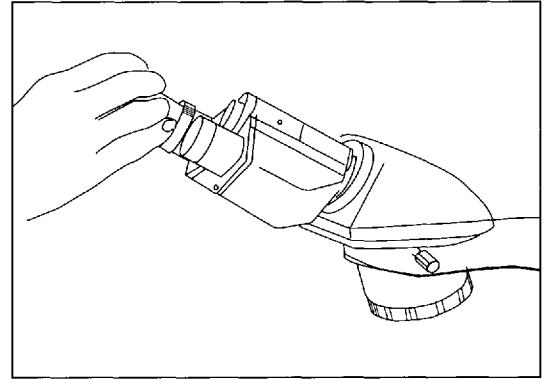

Figure 3
- Install the two eyepieces (MA407) by sliding them into the head. **The eyepieces for MT4000 Series are a DIN and JIS standard 23.2mm diameter.** (Fig.3)